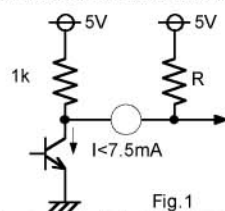

Fig.1
4. The terminal of H, V output pin are shown as Fig.1. It is possible to reduce rise time by insert the resistor between Vcc line and H, V output Pin, but set the value of resistor in order that the current is under 7.5 mA . Setting the value of R is more than 2K as shown in Fig.1 .